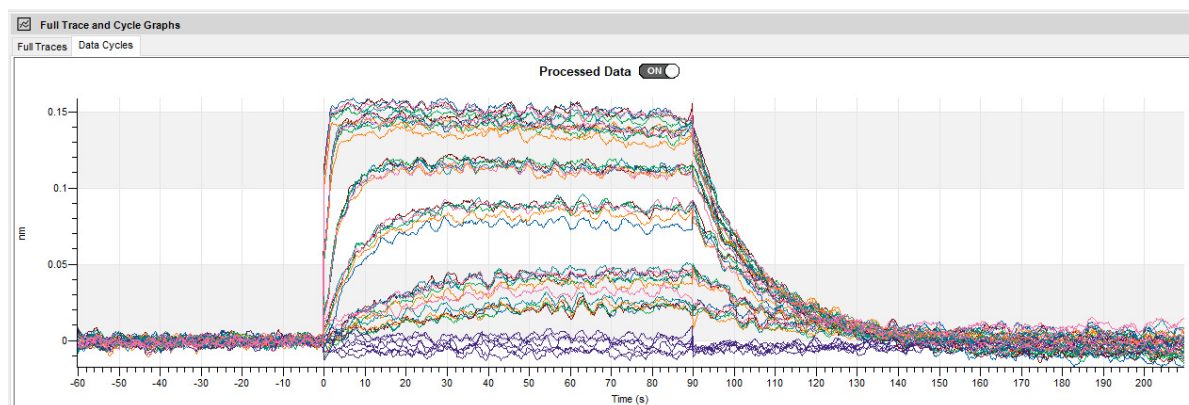

Figure 2-17: Step Dividers Hidden
-  (**Hide Step Dividers**) and  (**Show Step Dividers**) - use these features to hide or show the vertical annotations that indicate a step transition. (Figure 2-17).